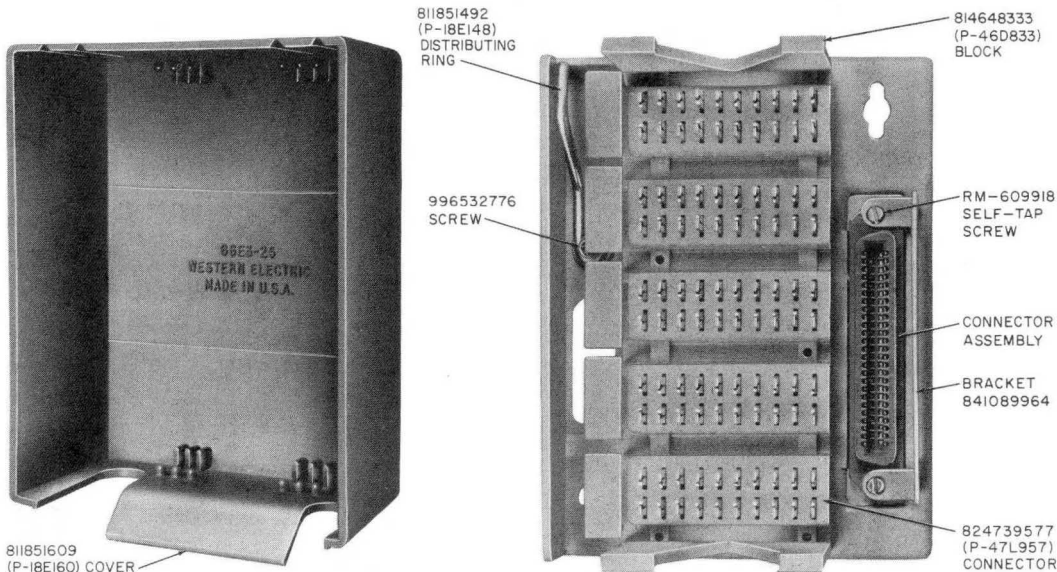

Fig. 1—66E3-25 Connecting Block
2.03 The 66E3-25 connecting block (Fig. 1) is equipped with a molded plastic housing incorporating a snap-on cover and a cable trough in the base. The block should be mounted on a firm flat surface. Provisions are also made for mounting the block to a standard wall outlet box or overfloor duct by using a 152A adapter.
2.06 A new bracket design has been incorporated on the 66E3-25 and 66E4-25 connecting blocks for attaching both the low and high silhouette plug or connectors. The new bracket 841089964 (Fig. 1), which contains a diagonal slot, replaces the present P-21E608 bracket. The new slot provides improved retention of the connector and plug to eliminate accidental disengagement resulting from external movement of the cord or connector cable.